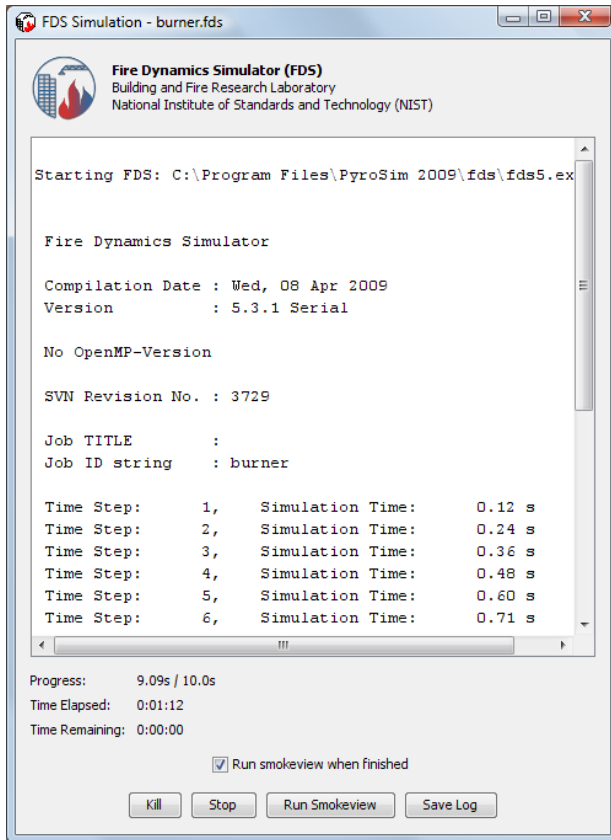

Figure 2.7. The simulation dialog during the analysis
2. The **FDS Simulation** dialog will appear and display the progress of the simulation. By default, PyroSim specifies a 10 second simulation. This should take approximately 1 minute to run depending on computing hardware, Figure 2.7.